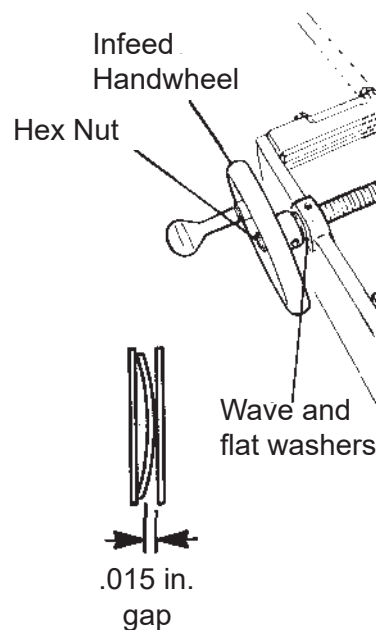

FIG. 12B
- C. Check for .015 in. [.04mm] gap between the wave washer and the flat washer. See FIG.12B. Readjust the hex lock nut if necessary.